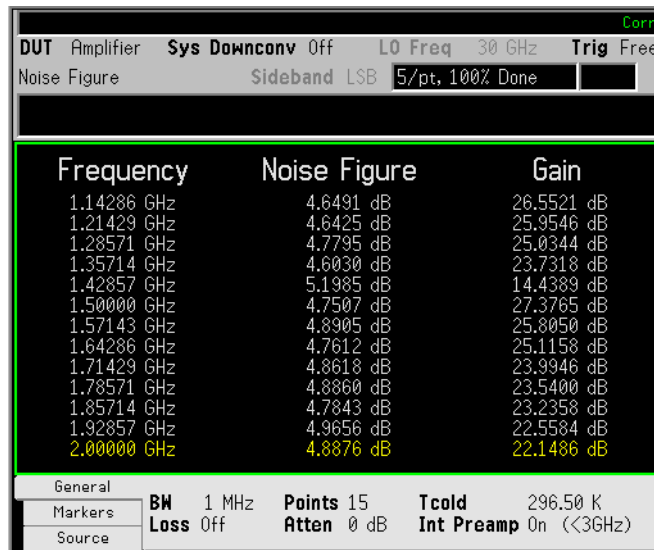
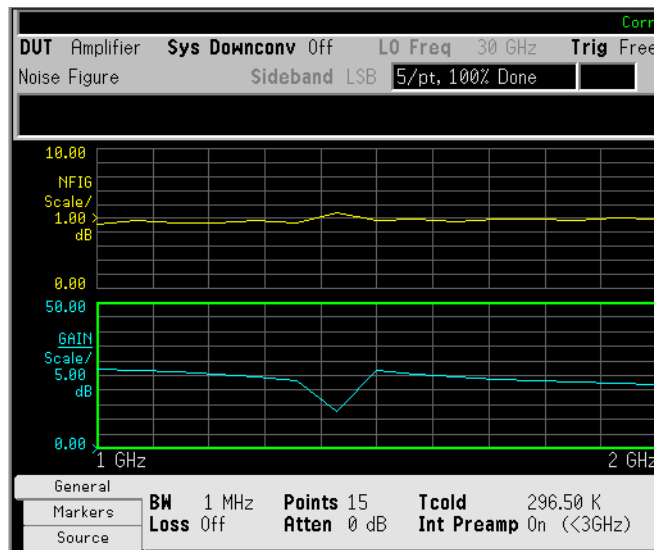

Figure 19 Typical Tabulated Results after Measurement
Figure 20 Typical Graphical Results after Measurement
A result similar to Figure 19 is now displayed. The expectation is approximately 0 dB of noise figure and gain. It may be better to view these results using table format mode.
A result similar to Figure 19 is now displayed.
- 4 Click **Trace/View > View > Graph**. A graphical result similar to Figure 20 is now displayed.
The results shown in Figure 19 and Figure 20 shows the DUT has an average noise figure of 4.8 dB, an average gain of 23 dB and a minimum gain of 14.4389 dB. The device under test therefore meets its manufacturer's specification over the frequency range of interest.